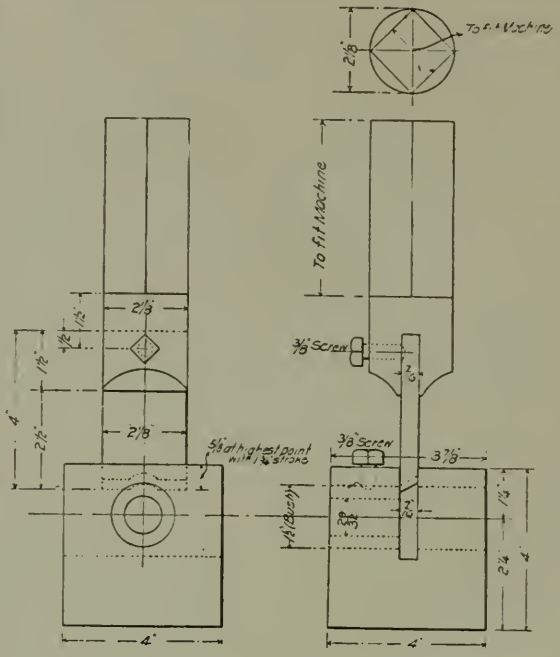

FIG. 1.
C. C. C. & St. L. R'y uses the device shown in Fig. 1. The advantage in the use of this device is that the bolt is held more firmly, while being sheared, than in the ordinary concave shears, and it cuts the ends off squarely. When the concave cutter is used there is more or less tendency for the stay bolt to raise up while shear is cutting, and the result is the end is not cut off squarely.